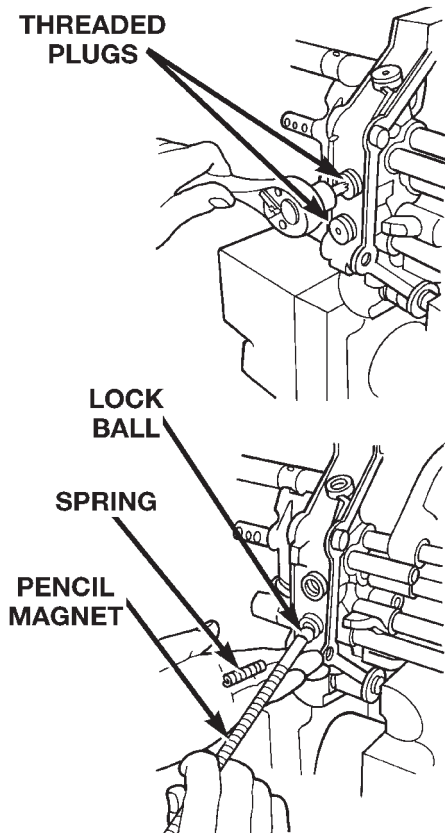

Fig. 66 Remove Lock Ball And Spring
(21) Remove threaded plugs from intermediate plate. Then remove lock ball and spring from plug holes with pencil magnet (Fig. 66). Note that the bottom spring is shorter in length than the other two springs.
(22) Remove the intermediate plate from the vise, rotate the plate 180°, and reinstall the plate in the vise using the same bolt and washer mounting set-up.